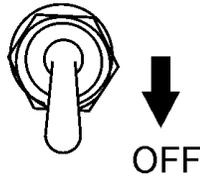

Figure 19. Idle Control Switch (OFF)
7. Place idle control switch (Figure 19) in the **OFF** (down) position. This will allow the engine speed to run at about 3600 RPM's.
Placing the idle control switch in the **OFF** position (Figure 19) allows the engine to operate at a maximum speed of about 3600 RPM's.